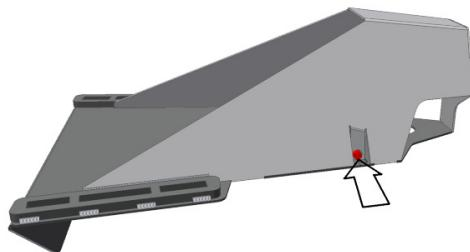

Figure 15: Bend Rainflap Hinge Tab
3. Bend the hinge tab inward over the rainflap rod until the hinge tab fits securely in the detent groove on the backside of the sensor bracket. (**Figure 15**)